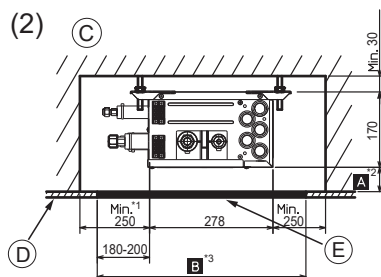
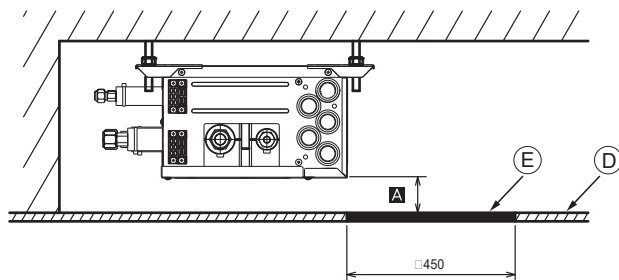
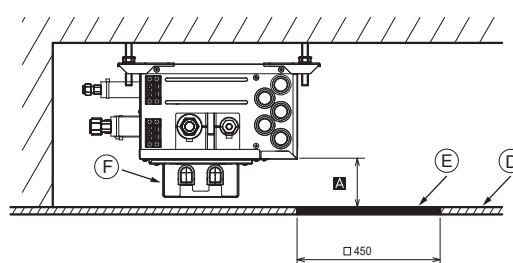

Fig. 2-2
Fig. 2-3
Fig. 2-4
#### (2) Side View (Fig. 2-2, Fig. 2-3, Fig. 2-4)
To install the optional reactor box, set Ⓐ to Min 270 mm <recommendation>. (Fig. 2-4)
In the case of "□ 450 mm", prepare a maintenance hole at a PCB side (as it is shown in Fig. 2-3, Fig. 2-4), and "Min 300 mm" is needed as distance Ⓐ.